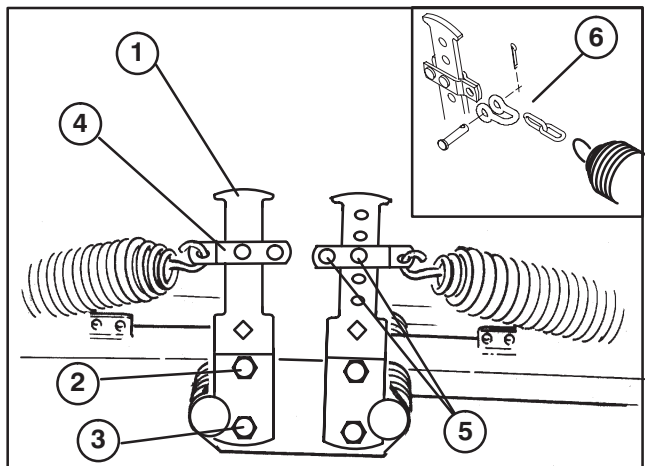

Figure 13
2. Secure other end of spring to appropriate hole (see below) on front counterbalance arm (Fig. 13) with spring shackle, clevis pin and cotter pin.
Note: On Reelmaster 2600D, secure spring to spring shackle with chain, clevis, clevis pin and cotter pin (Fig. 13, inset).